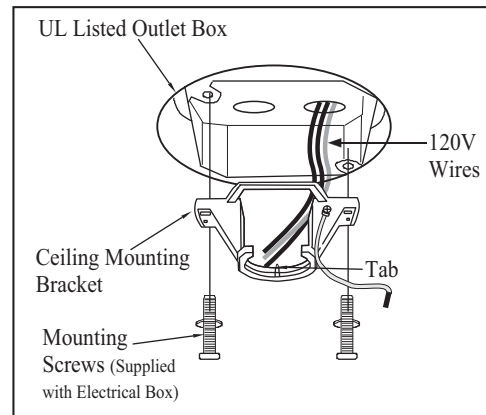

Figure 7
1. Pass the 120-volt supply wires through the center hole in the ceiling mounting bracket as shown in Figure 7.
2. Install the ceiling mounting bracket to the outlet box; be sure to align the holes in the hanger bracket with the post holes in the outlet box and secure with screws and washers provided by the outlet box (Fig. 7).